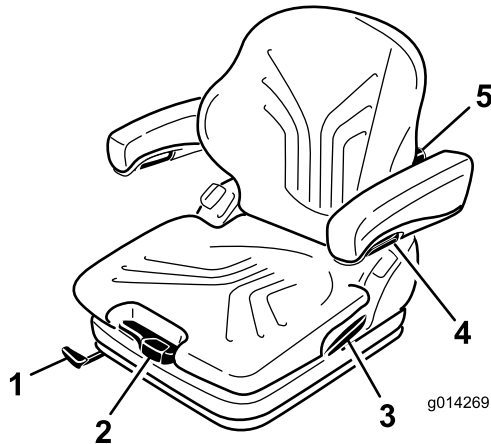

Figure 31
The seat is adjusted for the driver's weight by pulling or pressing the weight adjustment lever (Figure 31).
1. To adjust, lift the lever to unlock the seat (Figure 31).
By turning the adjustment knob upwards, the curvature in the upper part of the backrest cushion can be adjusted. By turning the knob downwards, the curvature in the lower part of the backrest cushion can be adjusted (Figure 31).
To adjust the armrests for height, separate the round cap (Figure 31) from the cover, loosen the hexagon nut (13 mm) behind it and adjust the armrests to the desired position and tighten the nut. Replace the cap onto the nut.
To adjust the angle of the armrests, turn the adjustment knob (Figure 31).
Pull up the locking lever to release the backrest catch (Figure 31). When releasing the backrest catch, do not apply load to the backrest by pressing against it.